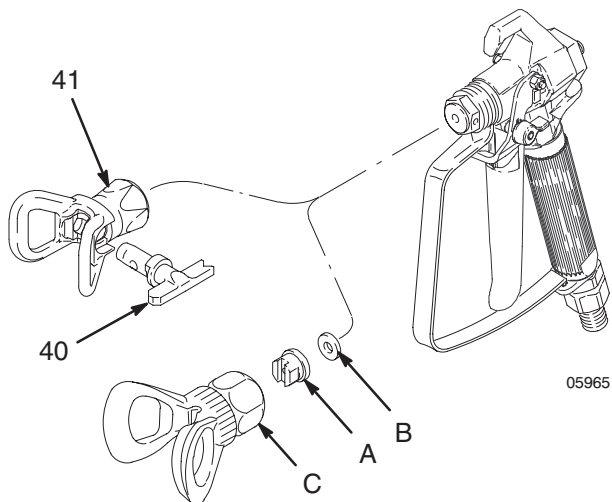

Fig. 2
1. Connect a grounded fluid hose to the gun inlet. See Fig. 2
Install the tip (A) and the gasket (B) in the nut of the tip guard (C). Screw the assembly firmly onto the gun. Tighten the assembly with a wrench. See Fig. 2.
**NOTE:** If the gasket (B) is not installed, the gun will leak.
Install the RAC IV SwitchTip (40) and the tip guard (41). See manual 308644, supplied. See Fig. 2.
2. Remove the tip guard assembly. See Fig. 2.
3. Squeeze the trigger while unscrewing the diffuser/seat (A) and gasket (B).
4. Remove the locknut (D) and end cap (23).